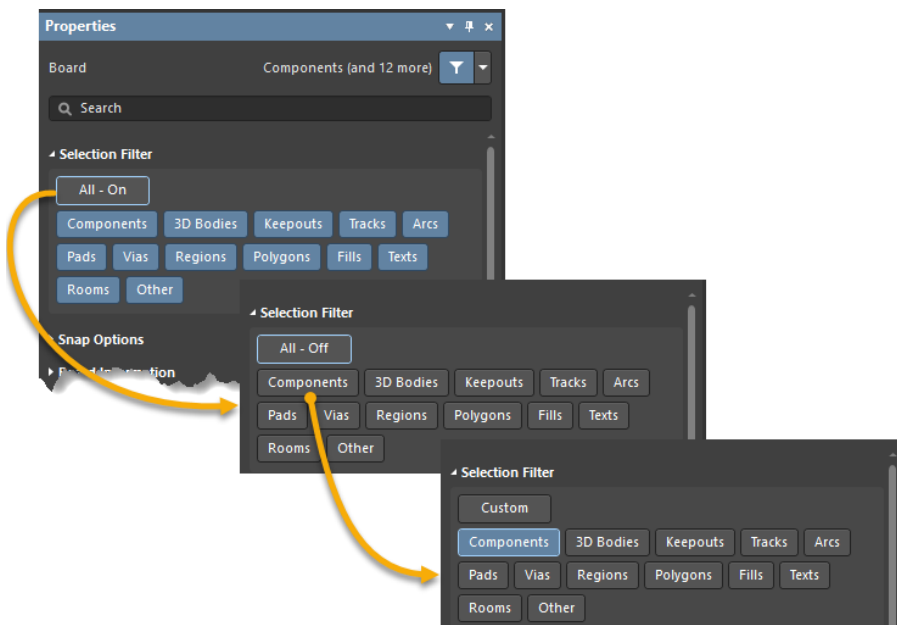

Figure 12. Selection Filter for Components
32. Enable the selection filter to only select **Components** and deactivate it for all other elements, as shown in Figure 12 below. If you do not see the selection filter (you see object parameters) click in a free area of the PCB to deselect everything or press **Shift+C**.